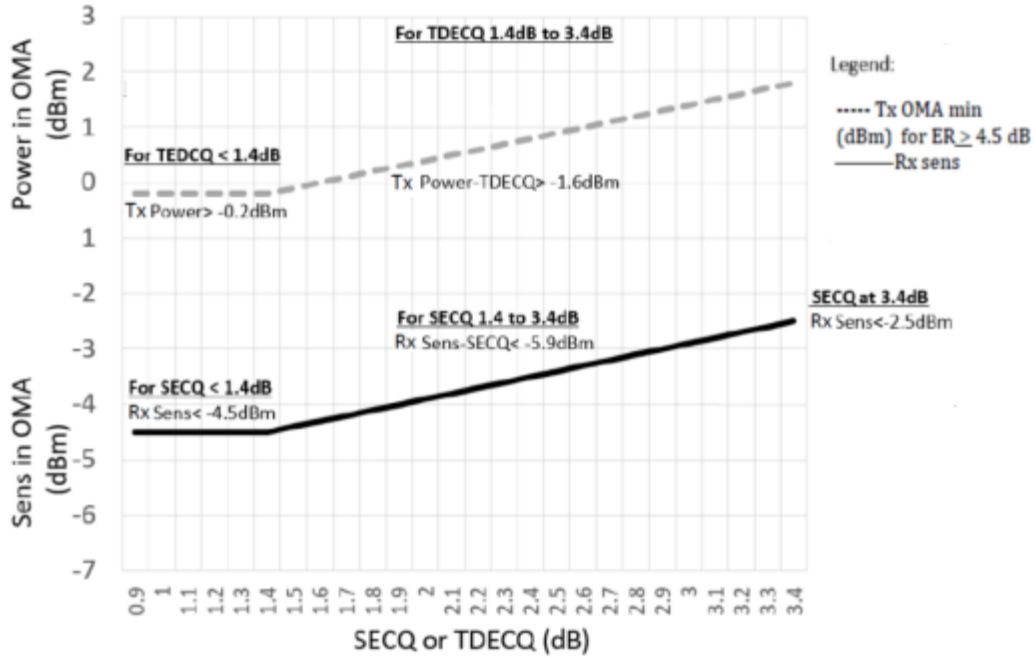

Figure 4. Illustration of Receiver Sensitivity Mask for 800G-8x100G FR
6. Receiver sensitivity ( $OMA_{outer}$ ) is informative and is defined for a transmitter with a value of SECQ up to 3.4 dB. Receiver sensitivity should meet Equation (1), which is illustrated in Figure 4.